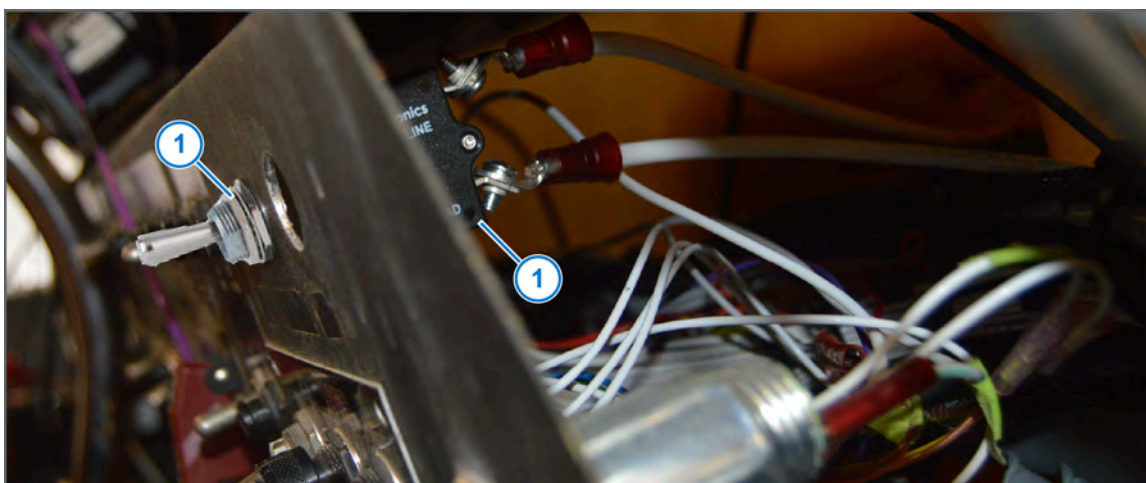

Figure 24: 50A Circuit Breaker Installation
4. Install the supplied SwathPRO™ 50A switch circuit breaker (Figure 24, Item 1) in the lower instrument panel of the cockpit.
See Figure 24